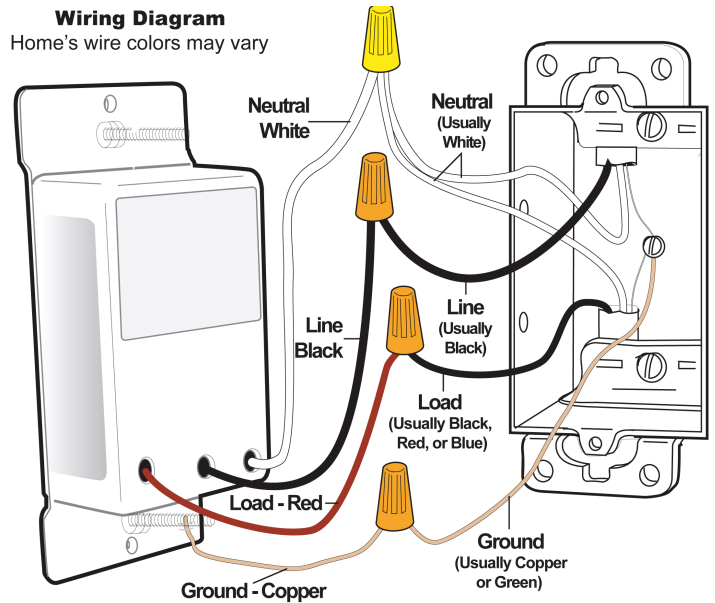

Figure 1
- 4) To correctly identify the LINE, LOAD, NEUTRAL, and GROUND wires, enable power to the switch from the circuit breaker or fuse panel, use a line voltage meter, then turn the breaker off again. See Figure 1 to properly connect your wires to the INSTEON device.